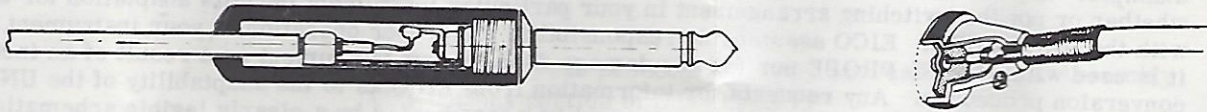

Figure 5
Note 1: See figure 5 for methods of connecting free end of coaxial cable to commonly used connectors.
No connector is supplied for the free end of the coaxial cable due to the varying VTVM input facilities. Two different types of connectors are shown in Figure 5. The methods for connecting the free end of the coaxial cable to both connectors are indicated in the figure. USE ONLY ROSIN CORE SOLDER.
10. () Figure 5. No connector is supplied for the coaxial cable. See figure 5 for wiring to two different types of connectors.